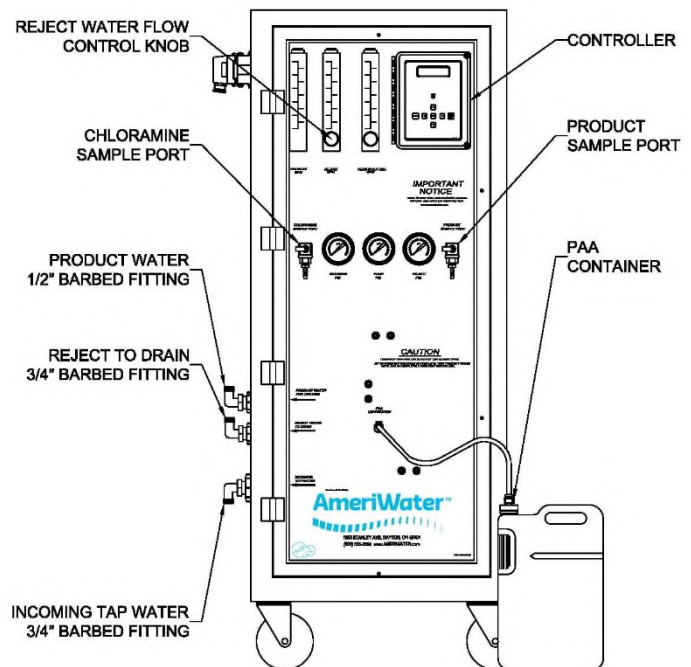

FIGURE 5.1
9. Connect the PAA tubing male fitting into the quick disconnect fitting that is mounted on the front of the cabinet of the RO3X (Figure 5.1).
13. Adjust the REJECT flow control knob so that the PAA will be drawn into the RO3X in approximately 2 minutes. (Figure 5.1) The REJECT flow amount will have to be determined the first time the PAA is drawn in, and noted the flow that will empty the container in approximately 2 minutes.